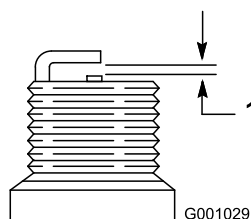

Figure 23
4. Set the gap between the electrodes on a new spark plug at 0.76 mm (0.030 inch) (Figure 23).